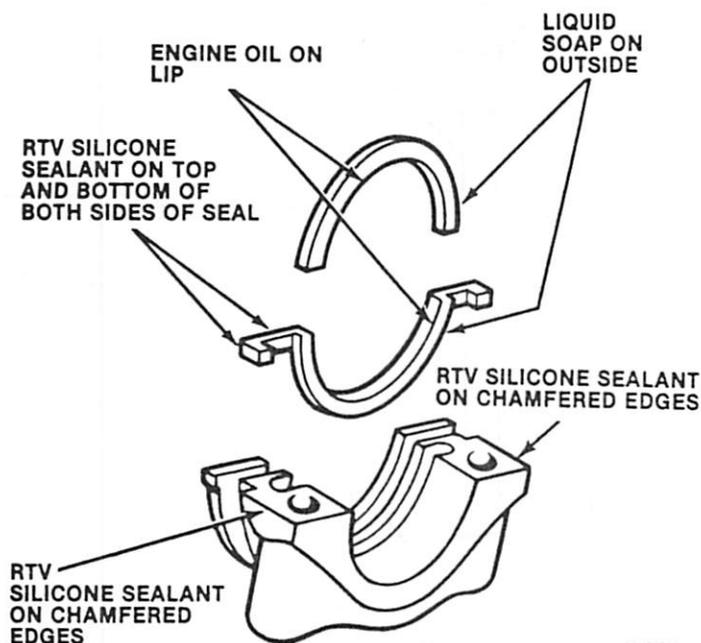

Fig. 1B-96 Rear Main Oil Seal and Cap Installation
(1) Wipe seal surface of crankshaft clean and lightly coat with engine oil.
(2) Coat lip of seal with engine oil.
(3) Install upper seal into engine block.
(4) Coat both sides of lower seal end tabs with RTV silicone (Jeep Gasket-in-a-Tube, or equivalent). Use care to prevent applying sealer to lip of seal.
(5) Coat outer curved surface of lower seal with soap and lip of seal with engine oil.
(6) Install seal into cap recess and seat it firmly.
(7) Coat both chamfered edges of rear main bearing cap with RTV silicone sealant (fig. 1B-96).